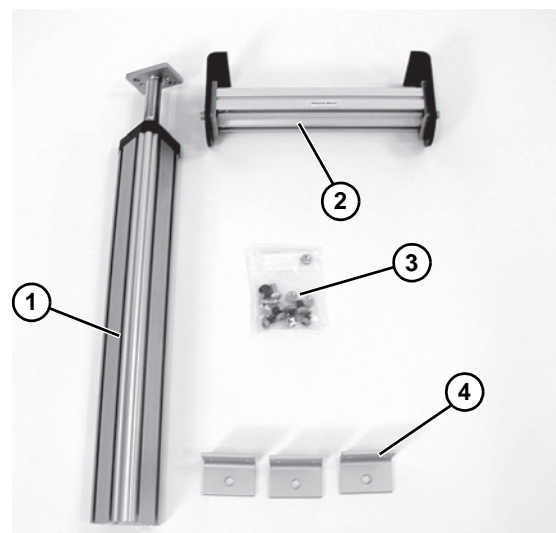

Figure 10
1. Typical components (**Figure 10**).
2. Open the hardware pack, single post stand (**Figure 10, item 3**).